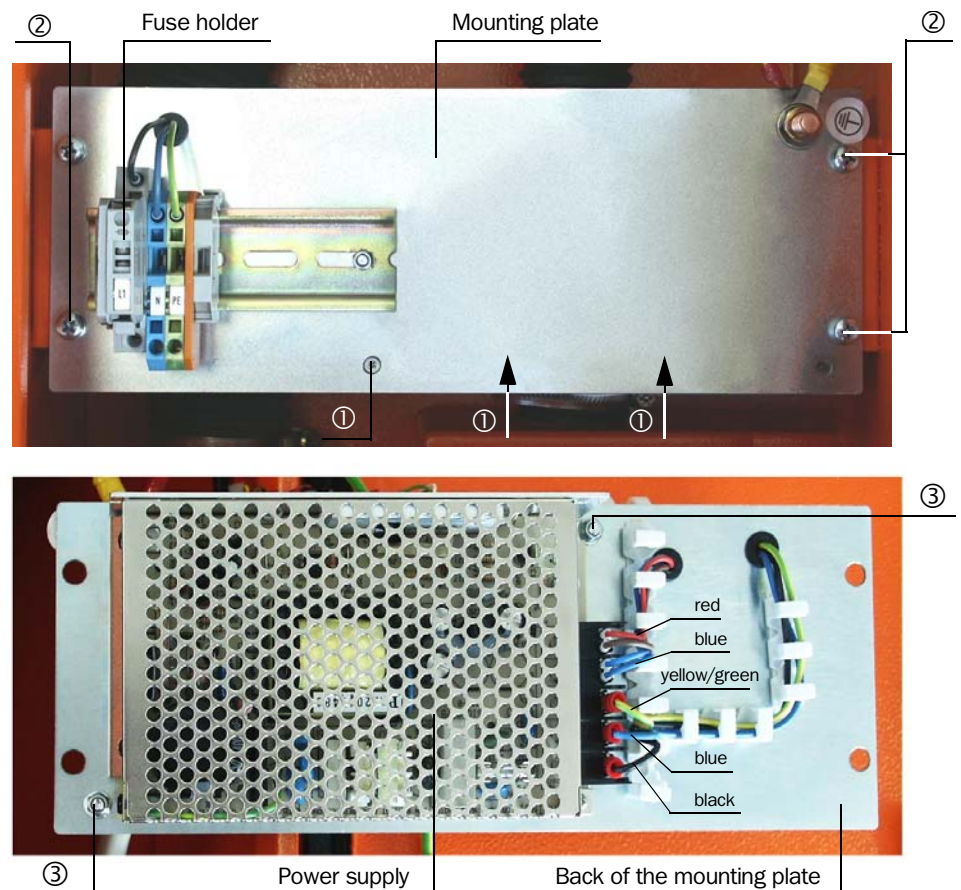

Fig. 7.3: Mounting plate with power supply unit
- ▶ Loosen the securing bolts for the power supply unit (1).
- ▶ Loosen the securing bolts for the mounting plate (2).
- ▶ Loosen the retaining bolts (3) and remove the power supply unit.
- ▶ Insert and connect the new power supply unit (see **Fig. 7.3**) and reassemble the connection unit by carrying out the above steps in reverse order.